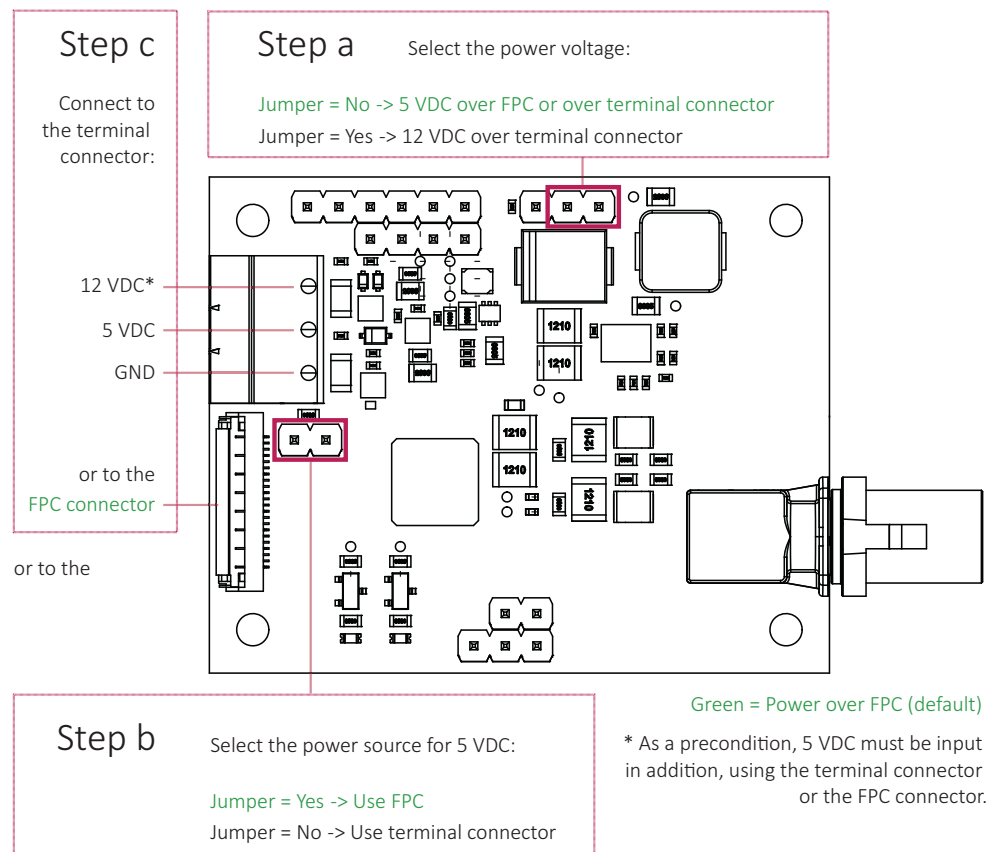

Figure 16: Connections and jumper settings for power supply
2. Set the jumpers for Step a and Step b as shown in Figure 16.
For **power over the terminal power connector**, connect the Phoenix Contact MC 1,5/3-ST-3,5 connector as shown in Figure 16 for Step c.